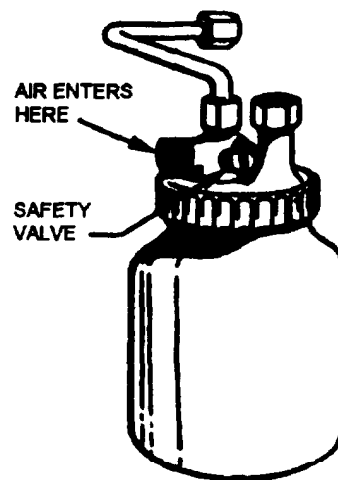

Figure 1-21.—Pressure-feed cup.
- **Material containers:** The material containers are the cups that hold the spray material before delivery to the gun. The type of painting job determines which of the several kinds of containers should be used. **Suction-feed cups** are used for small quantities of lightweight and mediumweight spray materials, such as lacquers. **Gravity-feed cups** are small and are attached directly to the top or side of the gun. Normally, they are used only on artist's and decorator's guns or on small touch-up guns. **Pressure-feed cups** are best for handling small quantities of enamels, plastics, or other heavy materials on jobs where fine adjustments and speed of application are needed. See figure 1-21.